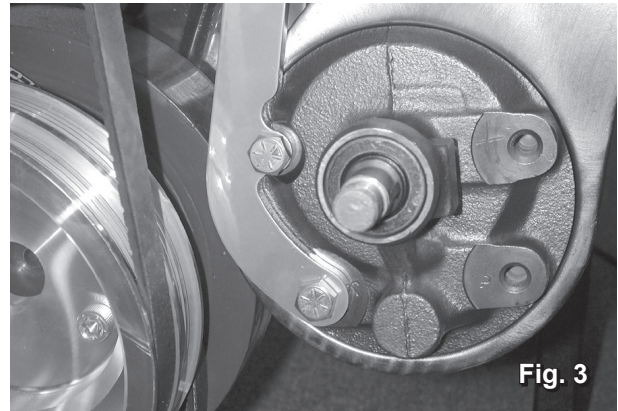
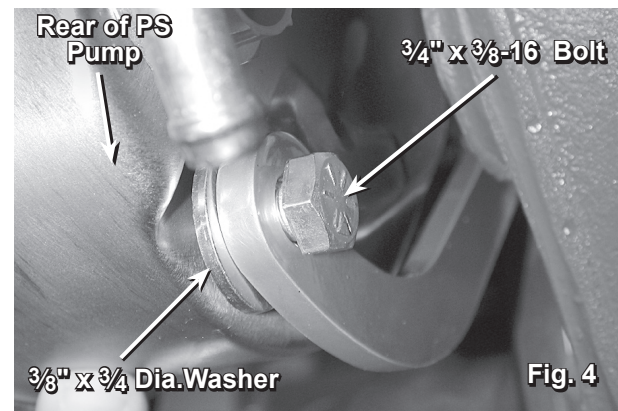
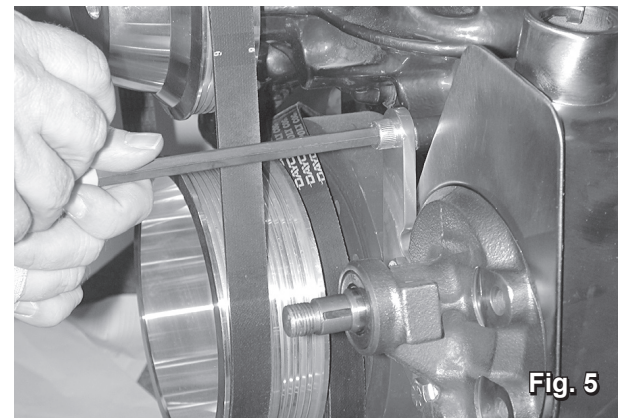

Fig. 3
Fig. 4
Fig. 5
3. Secure pump to lower support brackets using two (2)  $\frac{3}{8}$ -16 x  $\frac{3}{4}$ " hex head head bolts at the front bracket (fig. 3) and one (1)  $\frac{3}{8}$ -16 x  $\frac{3}{4}$ " hex head head bolt at the rear placing a  $\frac{3}{8}$ " x  $\frac{3}{4}$ " diameter washer between the bracket and the pump. (fig. 4) Snug down bolts at pump and at water pump (fig. 5).